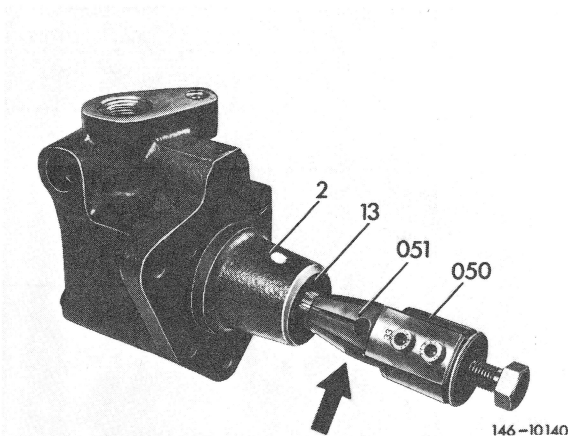

Fig. 2
- 5 Slacken hex. screw of puller (050) and slip tool on drive shaft, while penetrating sealing lips of radial sealing ring (13) with claws (051) (Fig. 2 and 3).
Attach respective claws to puller. The claw dia. is punched-in (Fig. 2 and 3).
6 Turn clamping cone (arrow) of puller (050) clockwise against stop and pull sealing ring out of housing (Fig. 2 and 3).